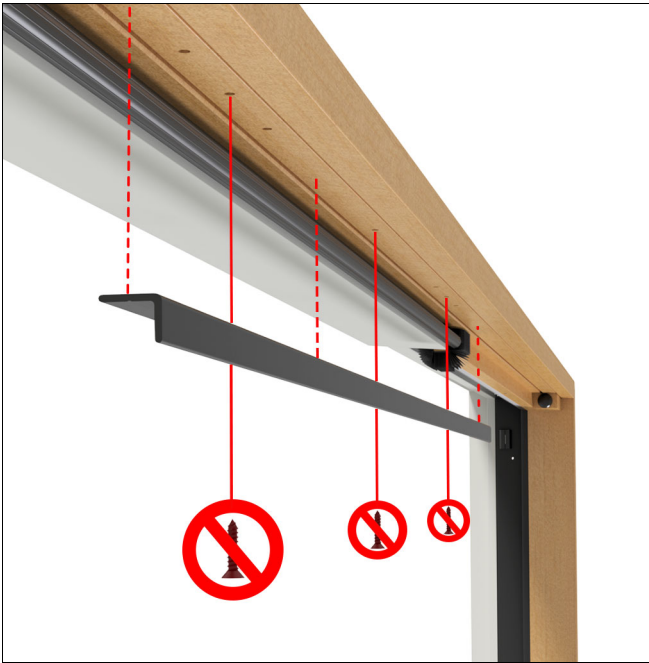

Figure 24
1. Temporarily remove the operator panel guide from the head jamb. Discard these screws, you will reinstall the panel guide with longer screws later once the door is installed in the opening. See Figure 24.